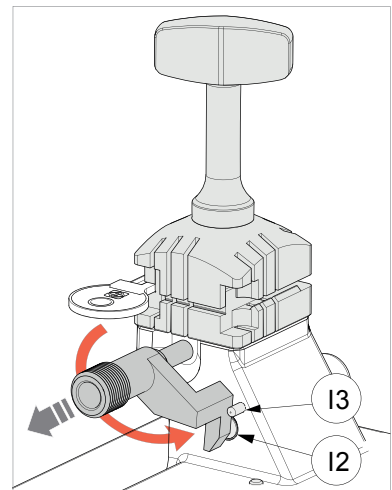

Fig. 31
**NOTE: take the gauge back by hand to its original position before starting to read or cut the key (Fig. 31).**
For all reading/decoding and cutting operations the gauge (I) must be taken back manually to its original position (Fig. 31 - in this position it covers the sensor (I2) which detects it).